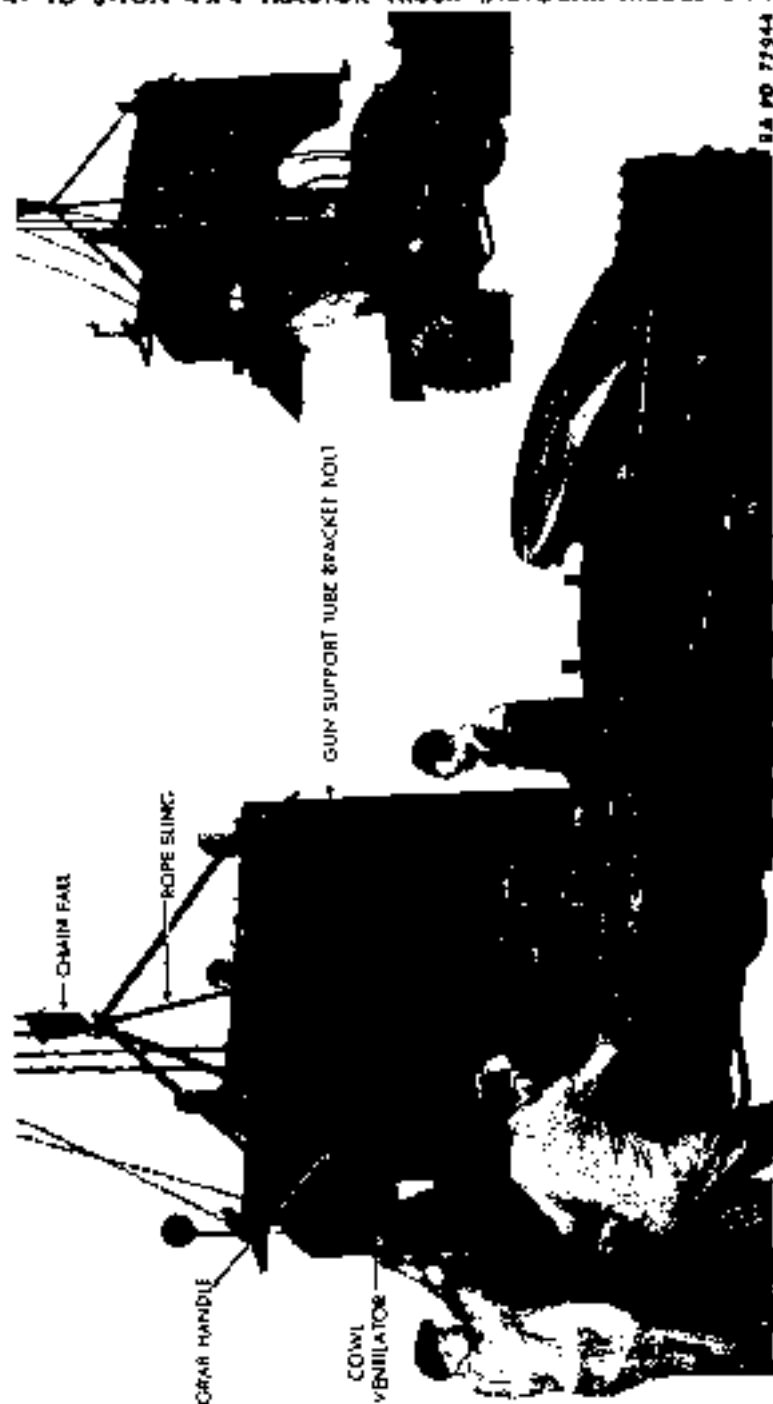

Figure 22 - Removing Cab
- ee. **Remove Cab** (fig. 22). Attach rope sling to cab as follows: Tie one end of rope to gun support tube bracket U-bolts at rear right-hand side of truck. Pull other end of rope across cab to the front left-hand side. Open cowl ventilator and push rope through opening, allowing some slack; then pull rope through grab handle on left-hand
p. Install Cab (fig. 22). Attach rope to cab as described in paragraph 56. Attach hoist to rope and raise into position over engine. Lower cab slowly, and guide into position on supporting brackets. Remove hoist and attaching rope.